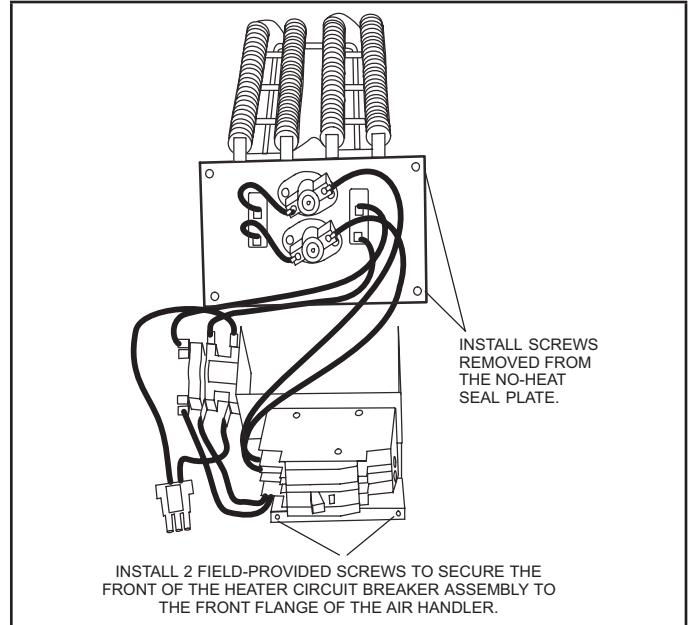

FIGURE 6. Installing the Heat Element Assembly
- 6 - Secure the electric heater assembly into place with the screws that were removed from the heat element panel. Install two field-provided #8 SDST screws in the front of the electric heater assembly (FIGURE 6).